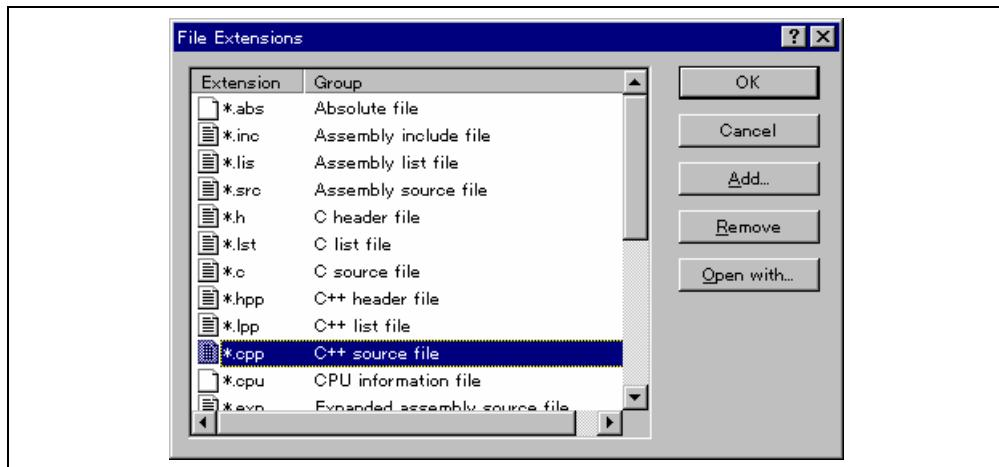
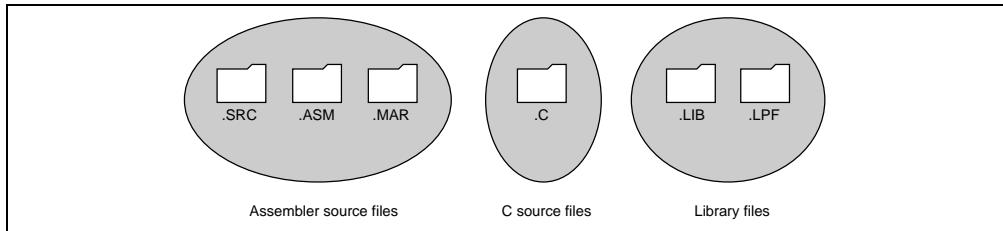

Figure 2.7: File Extensions Dialog
Figure 2.8: File Extensions and Groups
File extensions and file groups can be viewed and modified via the “File Extensions” dialog (figure 2.7). This is invoked by selecting [**Project->File Extensions...**]. This dialog displays all of the extensions and file groups, which are defined within the current workspace.
The “File Extensions” list shown in figure 2.7 is divided into two columns. On the left are the file extensions themselves, whilst on the right are the file groups. Many file extensions can belong to the same group. For example, assembler source files may have several extensions in a single project (e.g. .src, .asm, .mar etc) as shown in figure 2.8.
1. Select **[Project->File Extensions...]** from the menu bar. The “File Extensions” dialog will be displayed (figure 2.7).